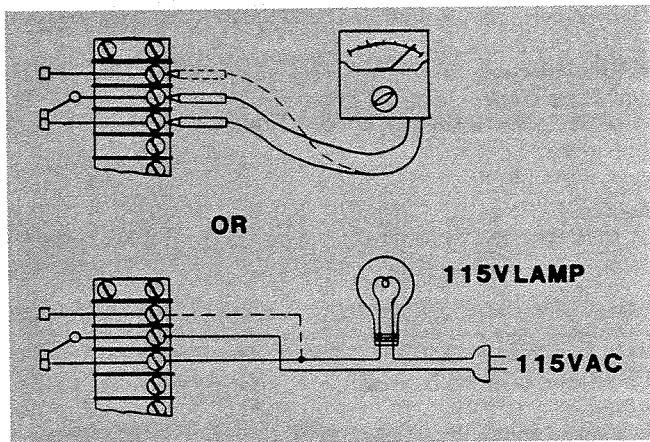

FIGURE 6-3
C. Relay operation may generally be heard as an audible click when the background noise is not too high. Use one of the methods shown in Figure 6-3 to determine if the relay contacts are switching.